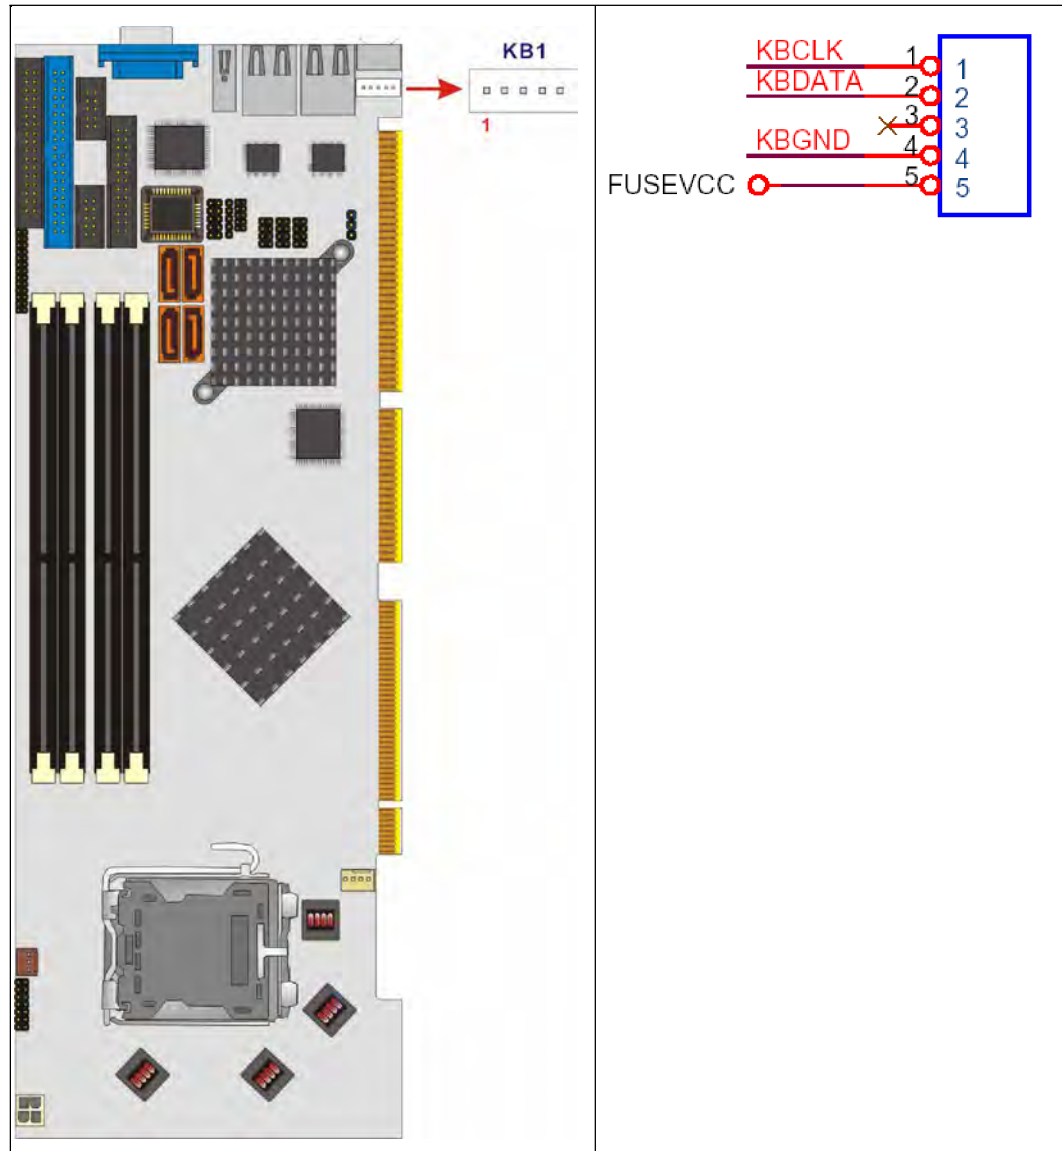

Figure 3-12: Keyboard Connector Location
**CN Location:** See **Figure 3-12**